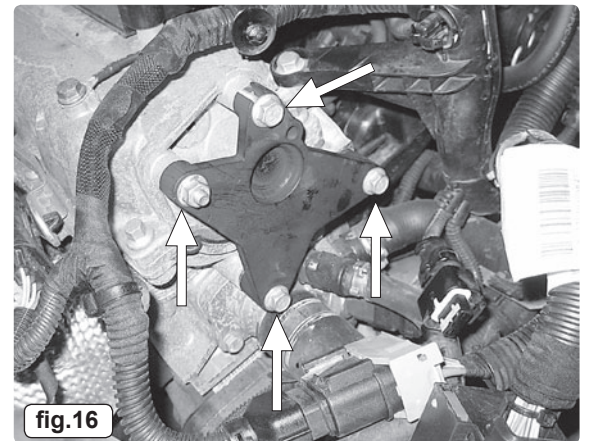

fig.16
- 3.4.2 To achieve correct alignment of the cover and cylinder head, the VS4954 Fixture is secured in place at 4 locations (2 on the cylinder head and 2 on the camshaft cover) (fig.16).